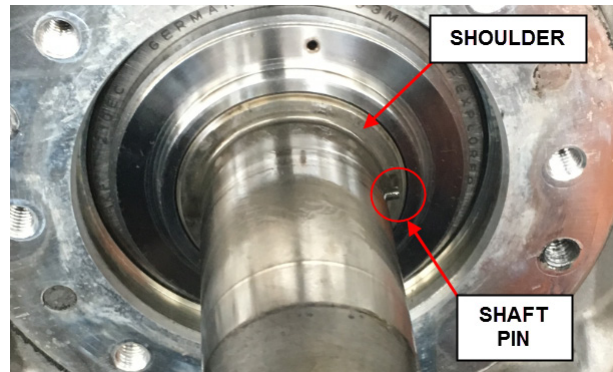

FIGURE 32: COMPRESSOR SHAFT PIN AND SHOULDER
- Push the sliding on the compressor shaft up to the shaft shoulder (figure 32).